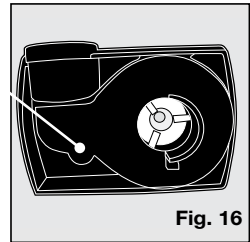

Fig. 16
3. Next, remove the stator by placing your fingernail underneath the small lip located on the narrow side of teardrop-shaped stator (**Fig. 16**) and pull out to remove.